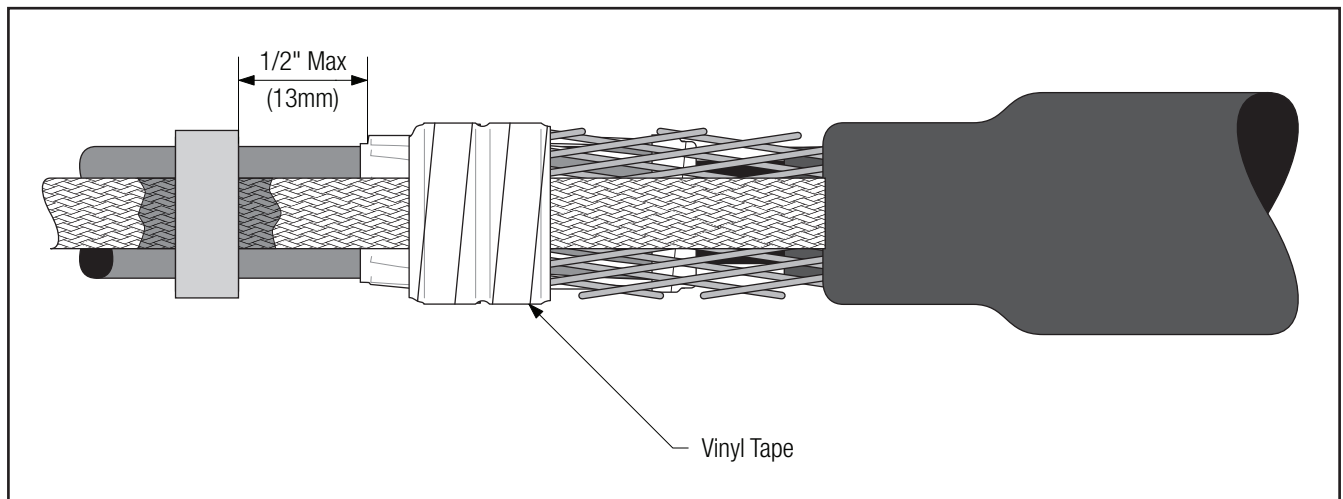

Figure 21
- 5.10 Wrap two half-lapped layers of vinyl tape over all constant force springs (*Figure 21*)